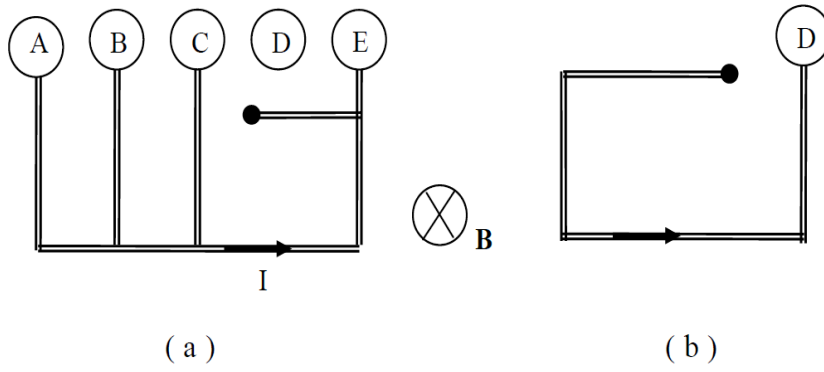

Figure 3.2. Current loop with connection points (a) front view, (b) rear view
Current will flow through the already prepared (prefabricated) current loops shown in Fig.3.2. L is the horizontal length of the wire passes through the pole region of the magnet, referred as test length. This length can be changed from 1 to 7 units and each unit nearly has 1 cm length. Test lengths used in the experiment should be recorded. Current loops will connect to a direct-current supply which has an ammeter. If the magnetic field is assumed to be as shown in Fig.3.2 (going into the page), the direction of the current flow should be as shown in the figure to create the force in the direction intended.
7. Increase current in 0.5 A increments up to 5.0 A. Read the new mass of the magnet group for each current value from digital balance. If the current increasing decreases the mass, thus the direction of current within the magnetic field is not as shown in Fig.3.2. In this case, reverse the connections on the Main Unit.
10. Plot the magnetic force (F) as a function of the current (I).